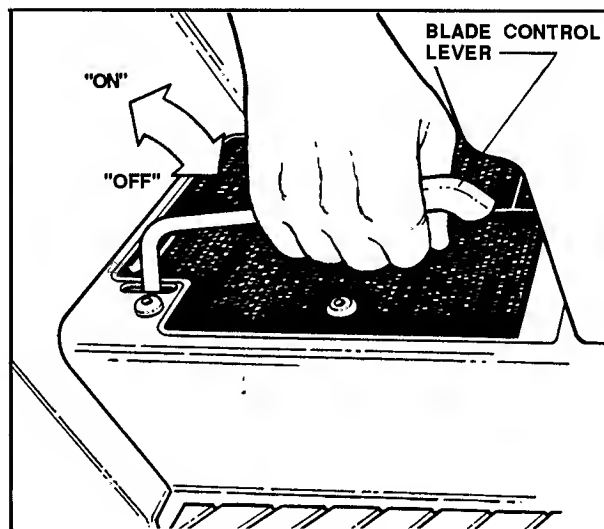
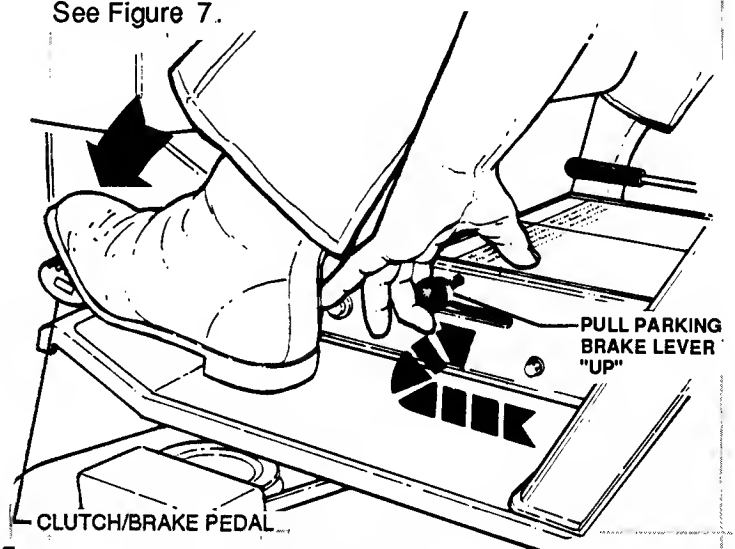

FIGURE 4
FIGURE 7
**MOWER BLADE: STOP MOWER BLADE** by pushing BLADE CONTROL lever downward to "OFF". See Figure 4.
1. PUSH BLADE CONTROL LEVER downward to "OFF" position (Fig. 4) and fully depress the CLUTCH/BRAKE PEDAL (Fig. 7), so that Safety Interlock System will allow engine to start.
Depress CLUTCH/BRAKE PEDAL. Pull PARKING BRAKE LEVER "UP" while releasing pedal. See Figure 7.